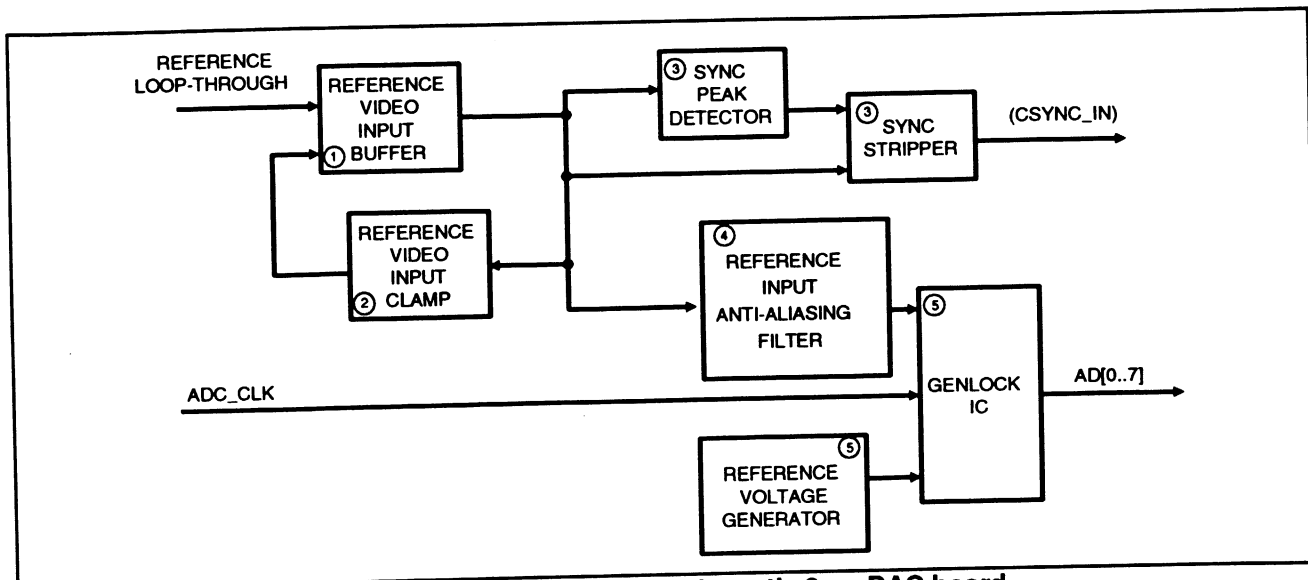

Fig. 2-10. Block diagram of schematic 2 on DAC board.
② ADC, CLAMP, & GENLOCK IC (See Fig. 2-10)
① Reference Video Input Buffer